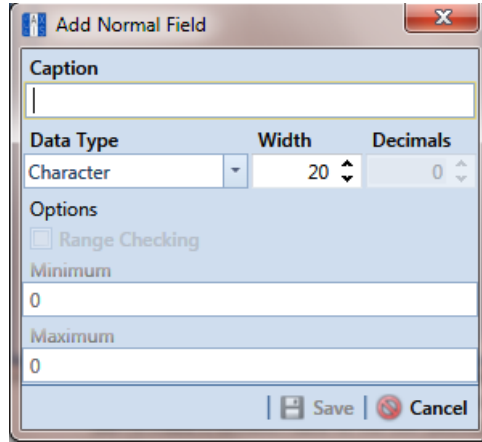

Figure 3-37. Add Normal Field
- 4 Click  **Normal** in the toolbar to open the *Add Normal Field* dialog box (Figure 3-37).